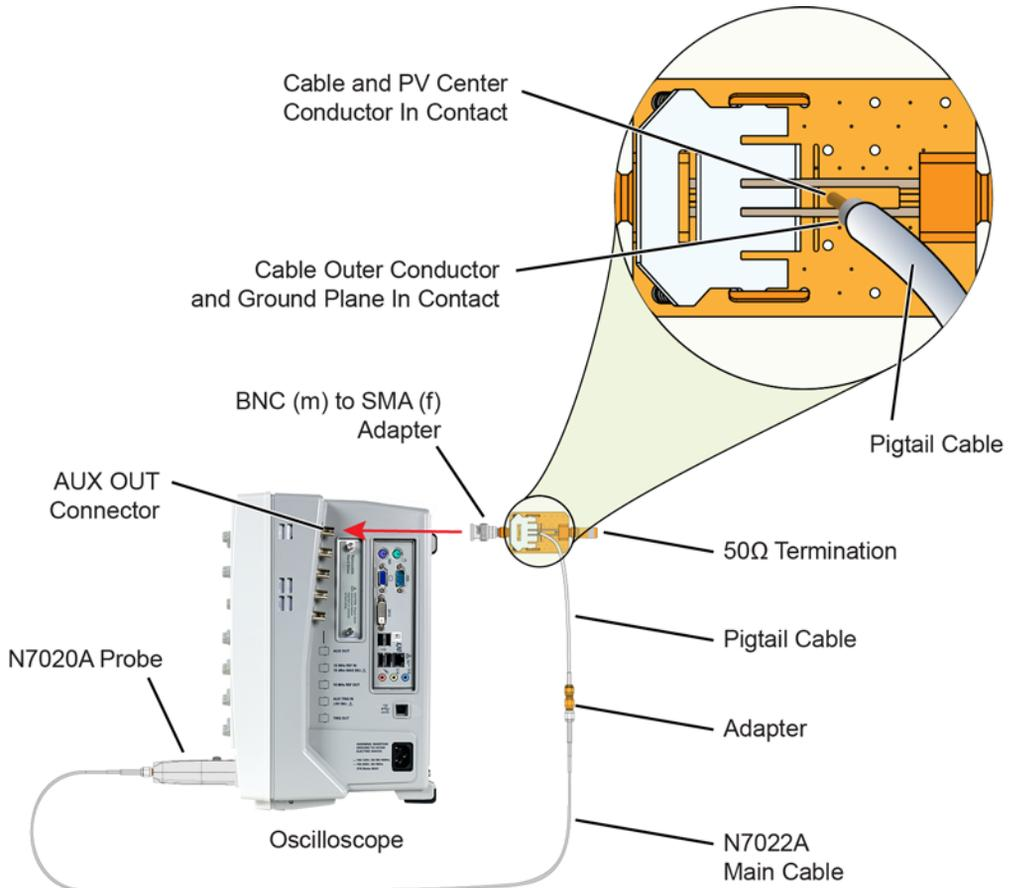

Figure 11 Deskew Setup
- 4 Connect the probe to an oscilloscope channel. The test setup is shown in Figure 11 on page 28,